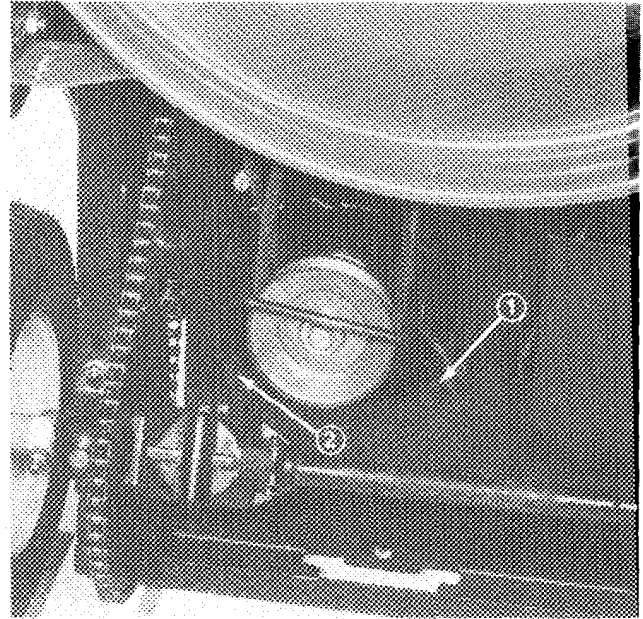
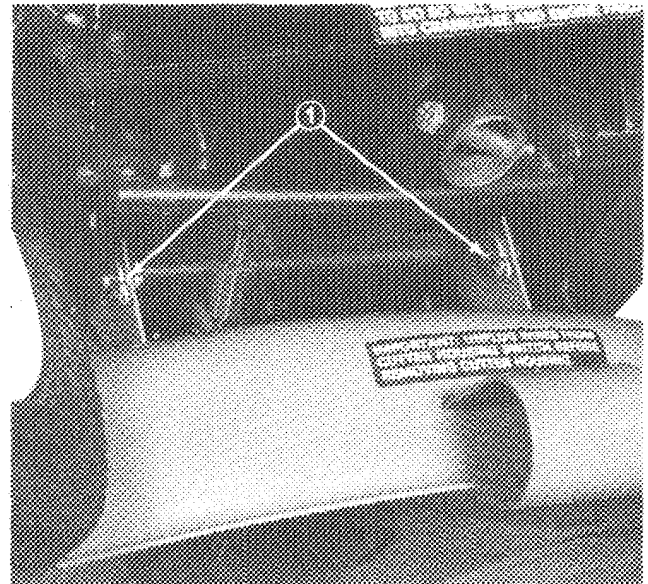
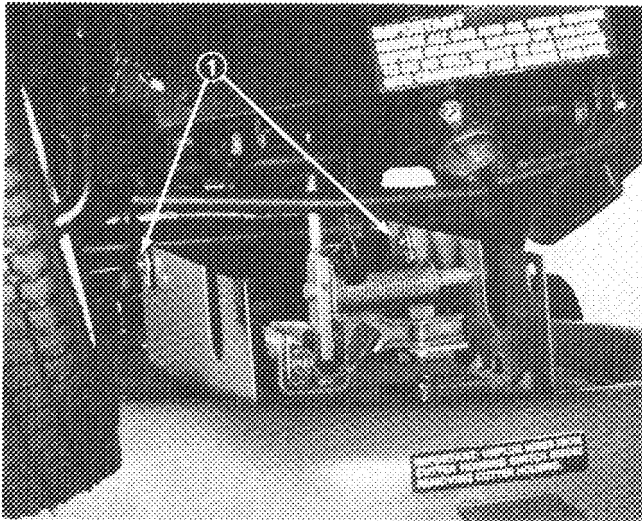

Figure 32
Figure 33
Figure 34
9. Remove hex head screw holding inside of belt guide and loosen the screw holding side of belt guide near chain (Fig. 32). Remove blade drive belt from pulley when there is enough clearance between belt guide and belt (Fig. 32).
retaining front of mower housing to front mounting pins (Fig. 33). Next, move housing to the side so it slides off mounting pins, and lower the housing until it stops.
11. Reach between front of mower housing and frame and separate interlock switch connectors (Fig. 33).
12. Remove two hair pin cotters and flat washers retaining back of mower housing to rear mounting pins (Fig. 34). Grasp mower housing and move it to the side until housing is off pins.
13. To install mower housing, slide back of mower housing onto rear mounting pins and retain it in place with two flat washers and hair pin cotters (Fig. 34). Push interlock switch connectors together and slide front of housing onto front mounting pins. Retain housing in place with two flat washers and hair pin cotters (Fig. 33). Install blade drive belt around large engine pulley, and secure belt guide in place with two hex head screws (Fig. 32). Make sure the belt does not contact belt guide when blade control is in ENGAGE detent.